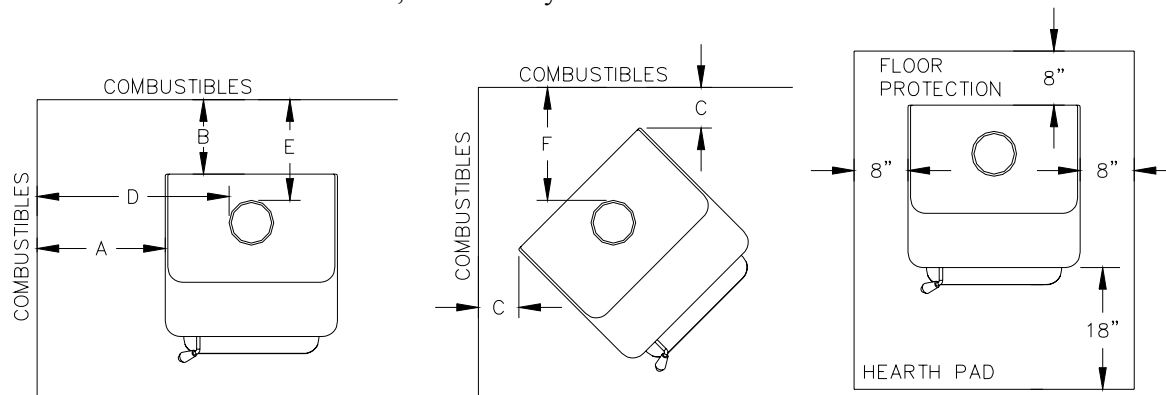

FIGURE 9: FREESTANDING CLEARANCE REQUIREMENTS
It is extremely important that an Ovation stove be vented into a non defective, clean, and properly lined masonry chimney. The masonry chimney system must conform to all local building codes. In the event a masonry chimney is not used, a listed factory-built chimney suitable for use with solid fuels should be used. This listed factory-built chimney system must conform to ULC-S629 (Canada) or UL 103HT (United States.) FIGURE 9 shows clearances required for various freestanding installations of Ovation stoves.
1. All Country Flame freestanding Ovation stoves require a listed floor protector that is noncombustible. Country Flame Ovation stoves were tested with a listed floor protection that had an R value equal to or greater than 1.5. Ensure that any floor protection equals or exceeds $R = 1.5$ or greater. Refer to FIGURE 9 for floor protector clearance requirements.
- ii. k-factor is given with required thickness (T) in inches: $R = (1/k) \times T$.
The Ovation stoves can be installed with a leg set. Inserts require no legs. All Ovation stoves require hearth pad protection. A combustible floor in front of the Ovation stove must be covered with tile, marble, stone or some other non-combustible hearth pad material. FIGURE 9, page 25, illustrate the fireplace and the hearth pad extension relationship. Page 28 explains the calculations required to determine if the non-combustible hearth pad material is adequate. **WARNING:** A hearth pad must be installed in accordance with national or local building codes. All hearth extensions for Ovation stoves must have an R-value of 1.5 or greater to ensure proper floor protection. If thermal conductivity (k-factor) or thermal conductance (C-factor) is used instead of thermal resistance (R factor) then use the relationships as follows **a)** k-factor is given with required thickness (T) in inches as $R = 1/k \times T$ or **b)** C-factor is given as $R = 1/C$.